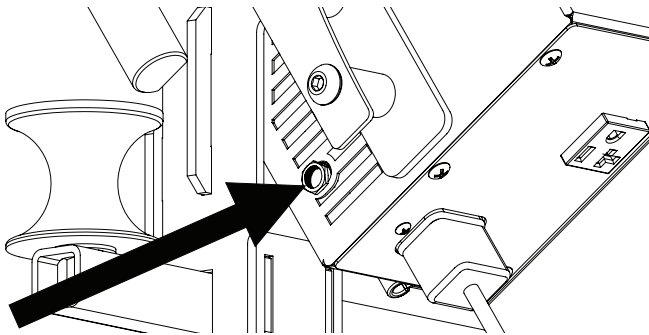

Figure 3
11. Plug the puller's foot switch into the Pull Assist's foot switch jack below the rope extraction guide. (Fig.3)